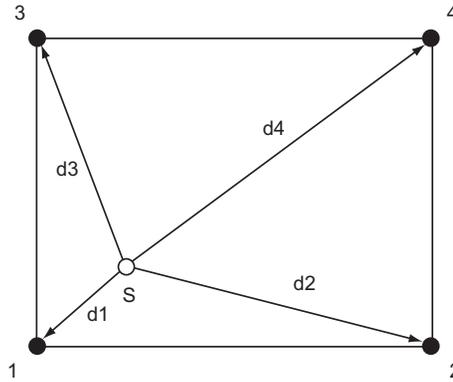

Figure 6.3 Interpolation for mismatched meshes.
A boundary element (BE) mesh and a structure mesh are said to be *mismatched* when not all nodes in the BE mesh have a corresponding node in the structure mesh that is coincident (by position). In such cases, nodal velocities at mismatched BE nodes are estimated by interpolating velocities from the nearby structure nodes (also referred to as *interpolating points*). Refer to Figure 6.3. For two matching meshes the velocities at structure nodes are directly applied to BE nodes.
Coustyx employs an inverse distance weighted interpolation method to estimate velocities at the mismatched nodes. The inverse of the distance between the BE node and the interpolating point is used as the weight. This approach diminishes the effect of far away interpolating points with respect to the nearby points. Employing this approach, the unknown velocity at a BE node is estimated by computing the weighted average of known velocities at ‘N’ nearby interpolating points collected from the structure mesh. Thus, the velocity at a mismatched BE node ( $v(S)$ ) computed from the four interpolating points (shown in Figure 6.3) is given by